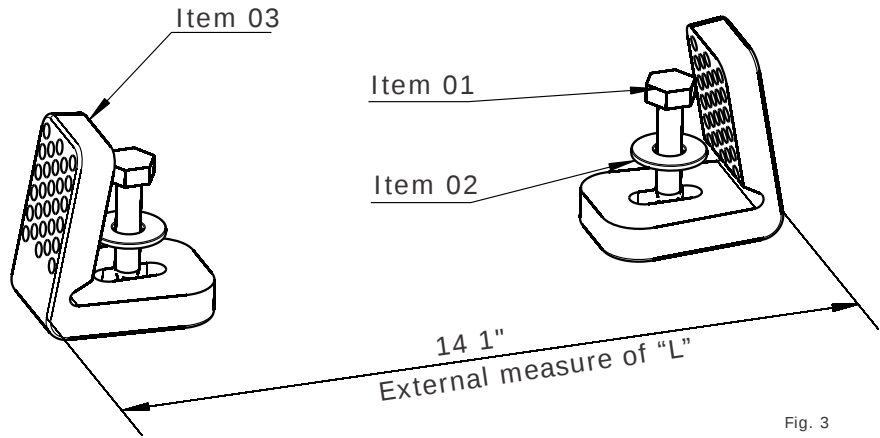

Fig. 3
- Position the fitting support (item 03) and tighten with the nut and screw (items 01 and 02), adjust the external distances of the supports according to Fig. 3, and definitely fit the supports to the floor.